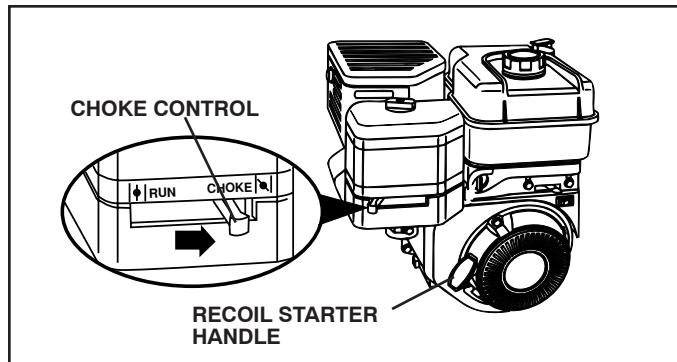

FIG. 14
TO START ENGINE (See Fig. 14)
- You will find tilling much easier if you leave a row un-tilled between passes. Then go back between tilled rows. (See Fig. 14) There are two reasons for doing this. First, wide turns are much easier to negotiate than about-faces. Second, the tiller won't be pulling itself, and you, toward the row next to it.